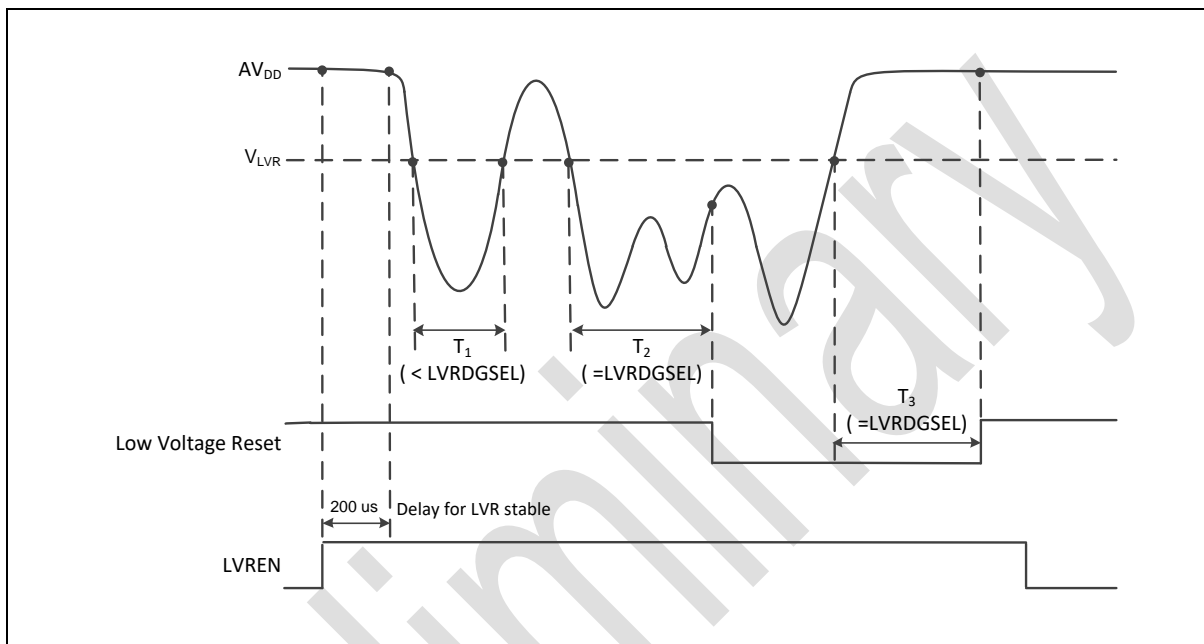

Figure 6.3-4 Low Voltage Reset (LVR) Waveform
6.3.2.3 If the Low Voltage Reset function is enabled by setting the Low Voltage Reset Enable Bit LVREN (SYS_BODCTL[7]) to 1, after 200us delay, LVR detection circuit will be stable and the LVR function will be active. Then LVR function will detect AV_{DD} during system operation. When the AV_{DD} voltage is lower than V_{LVR} and the state keeps longer than De-glitch time set by LVRDGSEL (SYS_BODCTL[14:12]), chip will be reset. The LVR reset will control the chip in reset state until the AV_{DD} voltage rises above V_{LVR} and the state keeps longer than De-glitch time set by LVRDGSEL (SYS_BODCTL[14:12]). The default setting of Low Voltage Reset is enabled without De-glitch function. Figure 6.3-4 shows the Low Voltage Reset waveform.